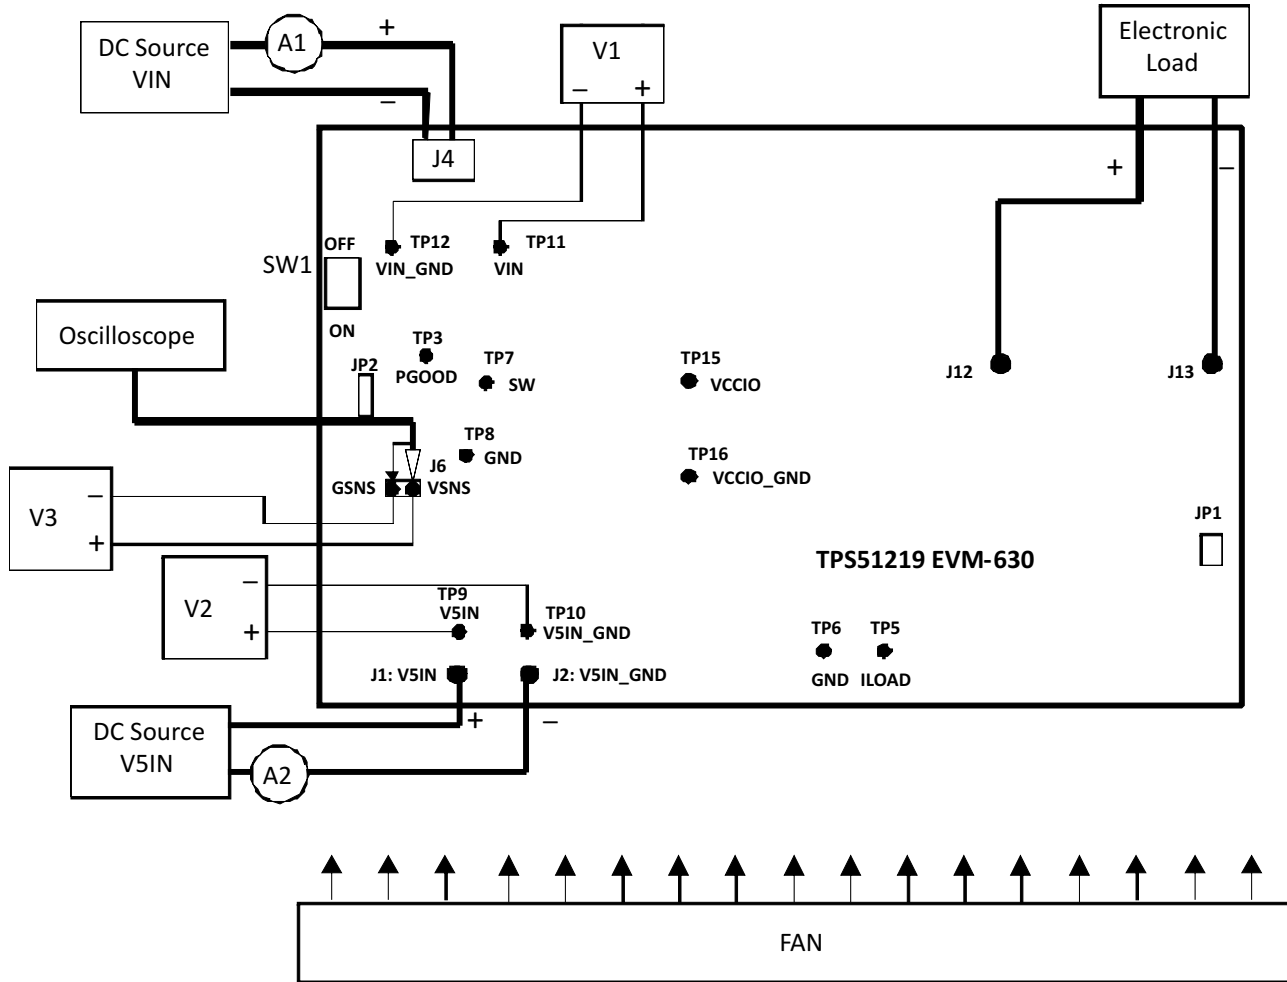

Figure 4-2. TPS51219EVM-630 Recommended Test Setup
Voltage Source VIN: The input voltage source VIN must be a 0-V to 20-V variable DC source capable of supplying 10 A_{DC}. Connect VIN to J4 as shown in Figure 4-2.
Voltage Source V5IN: The input voltage source V5IN must be a 0-V to 5-V variable DC source capable of supplying 1 A_{DC}. Connect V5IN to J1 as shown in Figure 4-2.
Figure 4-2 is the recommended test setup to evaluate the TPS51219EVM. Working at an ESD workstation, ensure that any wrist straps, bootstraps, or mats are connected referencing the user to earth ground before power is applied to the EVM.
1. Prior to connecting the DC source VIN, it is advisable to limit the source current from VIN to 10 A maximum. Ensure that VIN is initially set to 0 V and connected as shown in Figure 4-2.
2. Prior to connecting the DC source V5IN, it is advisable to limit the source current from V5IN to 1 A maximum. Ensure that V5IN is initially set to 0 V and connected as shown in Figure 4-2.
3. Connect a voltmeter V1 at TP11 (VIN) and TP12 (VIN_GND) to measure VIN voltage, V2 at TP9 (V5IN), and TP10 (V5IN_GND) to measure V5IN voltage as shown in Figure 4-2.
Place a fan as shown in Figure 4-2 and turn it on, ensuring that air is flowing across the EVM.